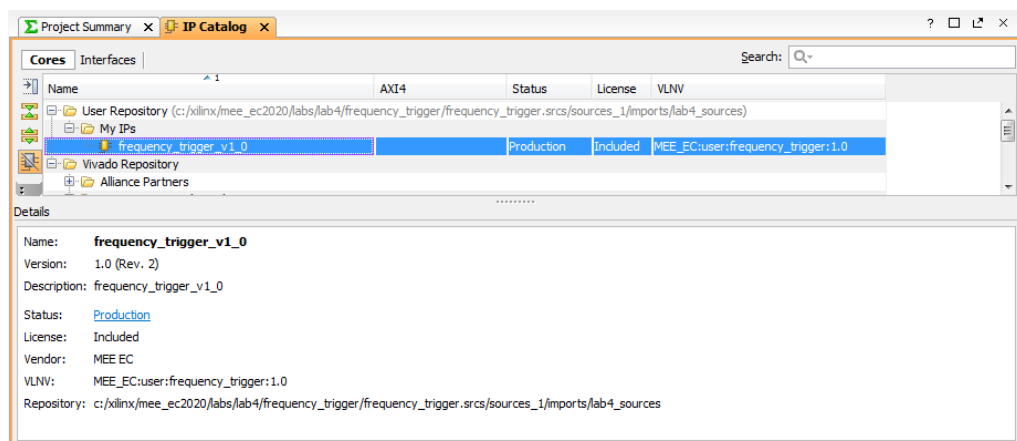

Figure 15. frequency_trigger IP in the IP Catalog
- 2-2-16.** In the **IP Catalog**, search for the **frequency_trigger_v1_0** IP, see Figure 15. If you select the **frequency_trigger_v1_0** IP, all the data that we entered in the process of the IP creation should appear in the **Details** window.